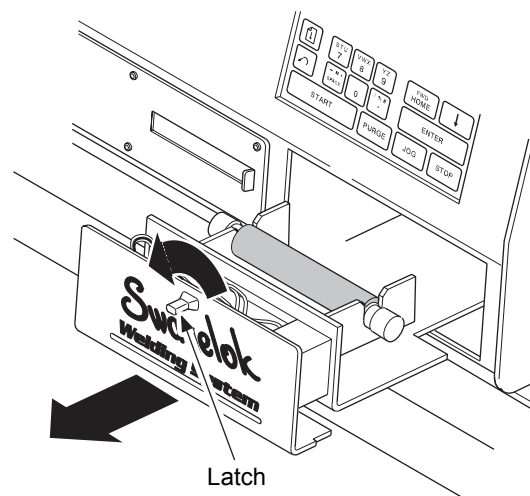

Figure 70 Opening the Data Recording Printer Drawer
1. Turn the latch counter-clockwise to release the printer body from the case. Remove the printer body from the case by pulling it forward. See Figure 70.